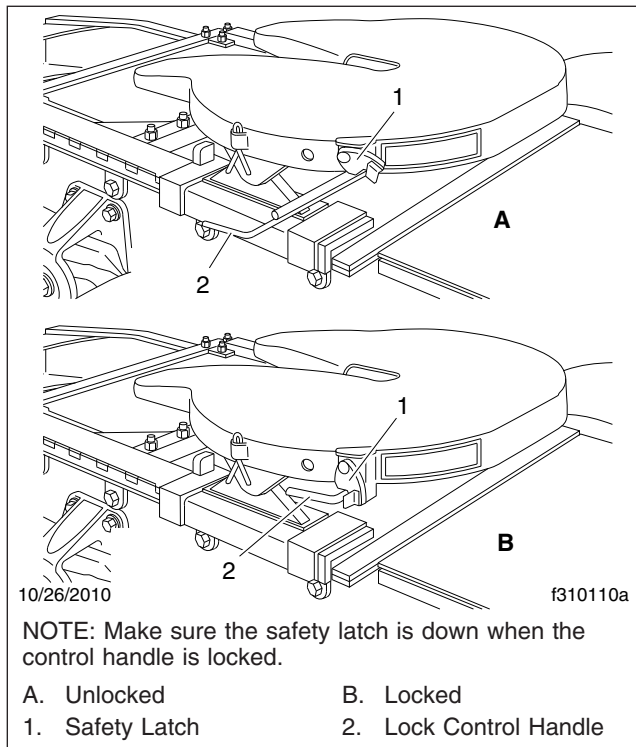
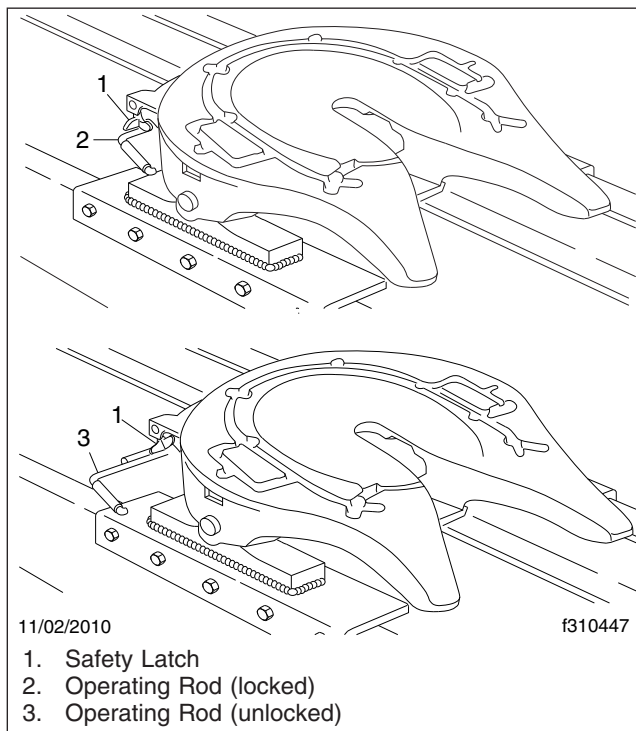

Fig. 18.2, Fontaine Locking Mechanism
Fig. 18.3, Holland Simplex SE Locking Mechanism
2. Ensure the fifth wheel jaw is fully open and the operating rod is in the unlocked position. See Fig. 18.2 or Fig. 18.3.
When lockup has occurred, the fifth wheel control handle moves to the locked position. Make sure that the safety latch is down over the lock control handle to hold the control handle in the locked position. (The safety latch will only rotate down if the operating rod is fully retracted in the locked position.) See Fig. 18.2 for Fontaine fifth wheels. See Fig. 18.3 for Holland fifth wheels.
- Fontaine:** Lift the safety latch and pull the lock control handle to the unlocked position. See Fig. 18.2.